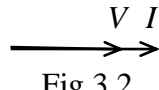

Fig.3.2
according to Ohm's law, where $V_m = RI_m$, $V = RI$, phase expression $\psi_v = \psi_i$ and phase shift angle makes $\varphi = \psi_v - \psi_i = 0$. Resistance of this element is R (Ω) and conductance is thus $G = 1/R$ (Sm). Vector diagram for this element is shown on fig.3.2. Active power of resistive element is accordingly $P = RI^2 = GV^2$ (W).